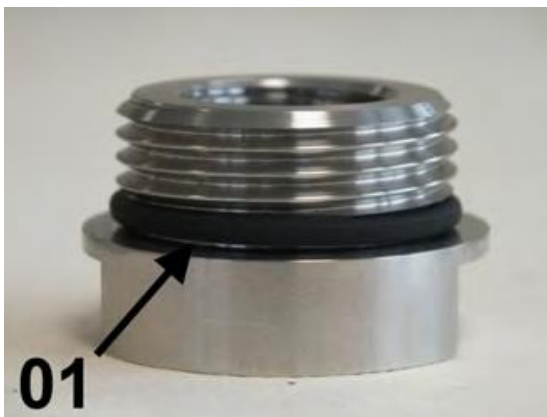

Fig. 47: Properly positioned O-ring
1. ► Carefully install the O-rings (Fig. 46/02) with the aid of the O-ring installation tool (Fig. 46/01) onto both process connections (inlet and outlet), so that they are properly seated in the O-ring grooves of the process connection (Fig. 47/01). When doing so, be careful not to overstretch the O-rings.
2. ► Position the O-ring properly on the process connection (Fig. 47/01)..